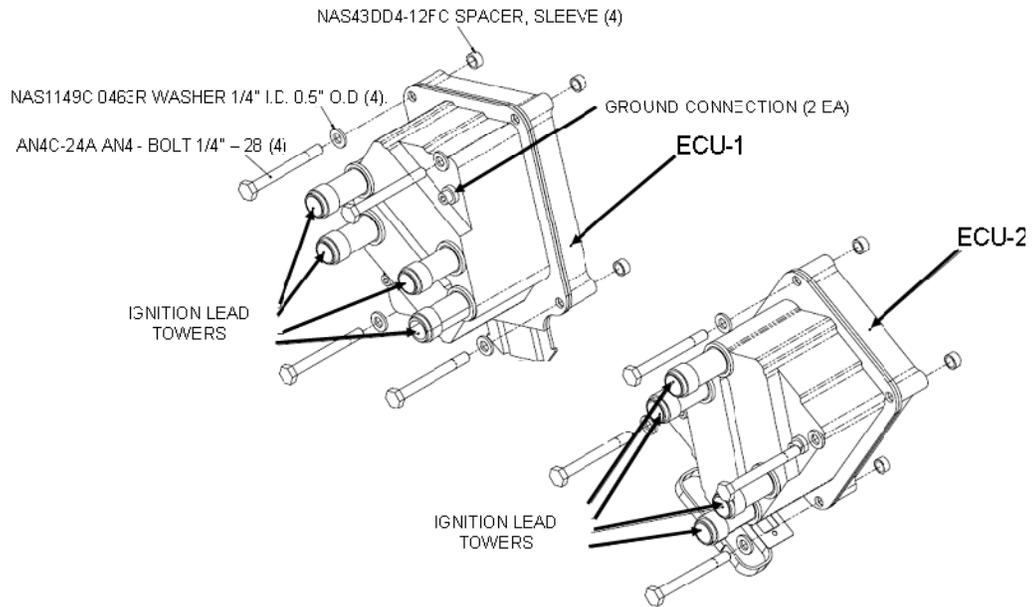

Figure 71-34 ECU Firewall Installation
3. Install FADEC ECU-1 and ECU-2 as shown in Figure 71-34. Torque bolts in accordance with Chapter 20 – *Standard Practices*.